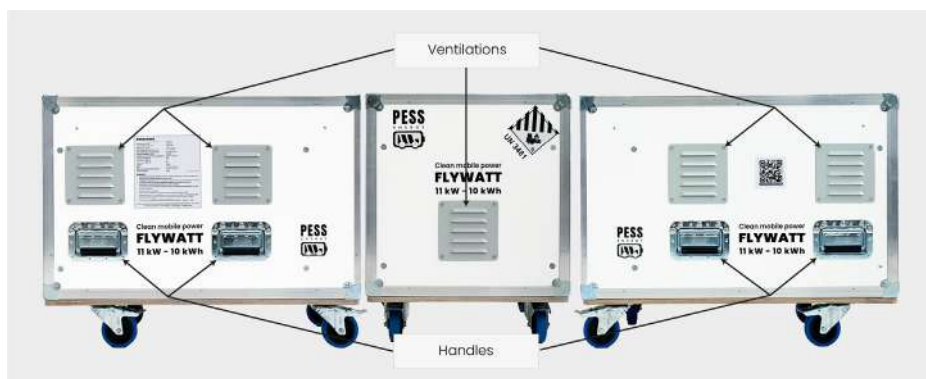

Figure 3 : Sides and back of the device
- Make sure that the air intakes (see III.3. Figure 3) of the device are not obstructed.
- Lifting is done only with the help of 4 people using the handles provided for this purpose (*see III.3. Figure 3*) or using a forklift when the machine is positioned on a pallet.